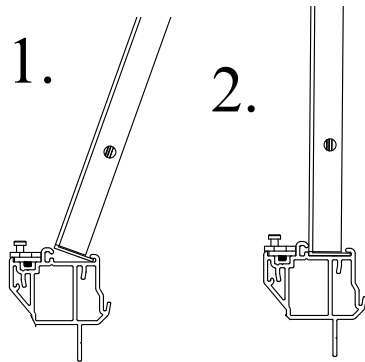
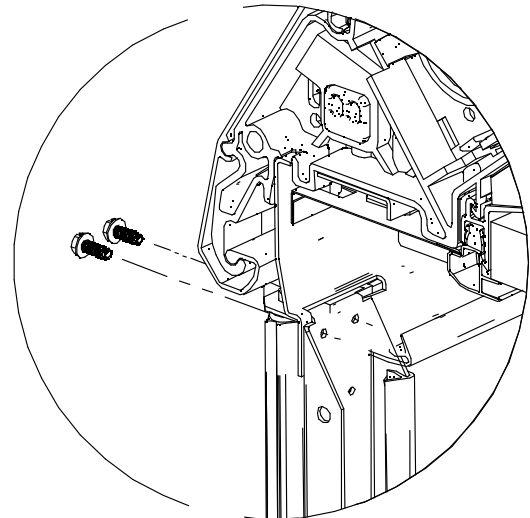

Figure 4-1
Figure 4-2
A. Slide bottom back side of mullions into bottom rail (1.). Tilt top of mullion toward inside of case to engage bottom lip of mullion into extrusion (2.), see Fig. 4-1. Level mullions before attaching to bottom rail. Fasten top of mullion to canopy support as shown in Fig. 4-2 with #10 screws.